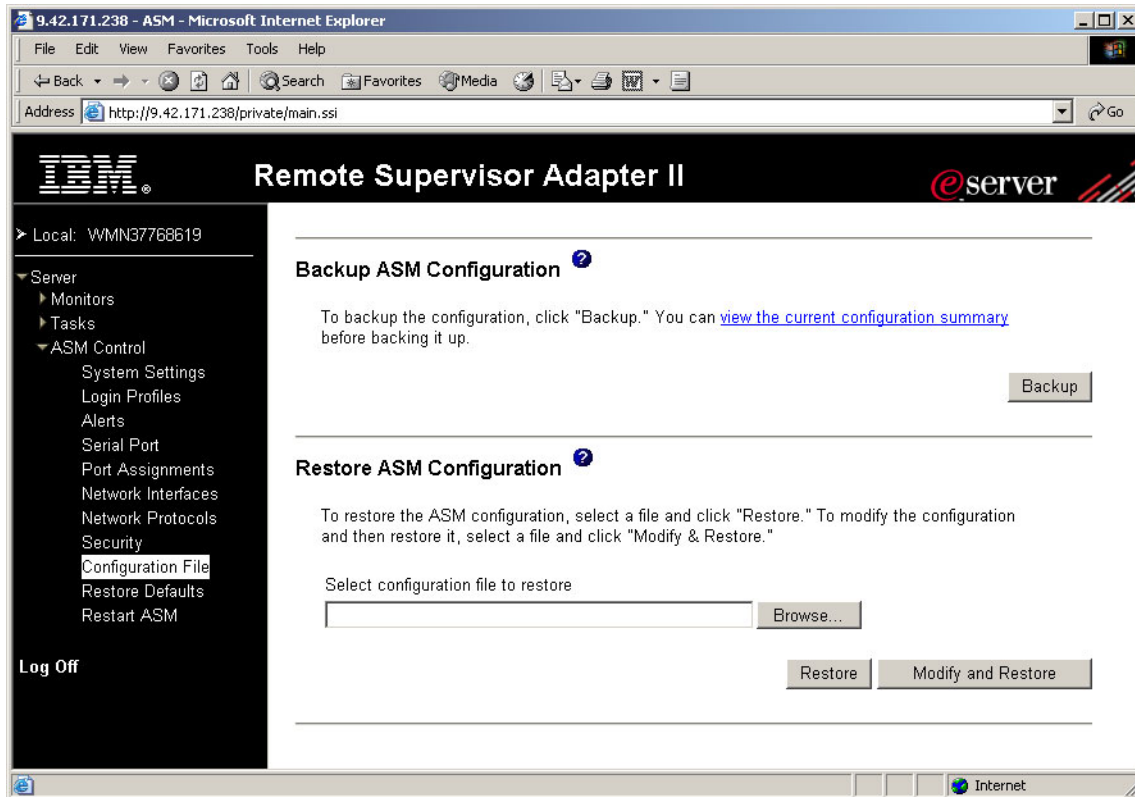

Figure 7-1 Backup configuration
If you want to restore a configuration, use the same panel as shown in Figure 7-1 on page 237.
1. Click **ASM Control** (or **MM Control** when using management module) → **Configuration File** in the navigation frame. Figure 7-1 on page 237 appears.